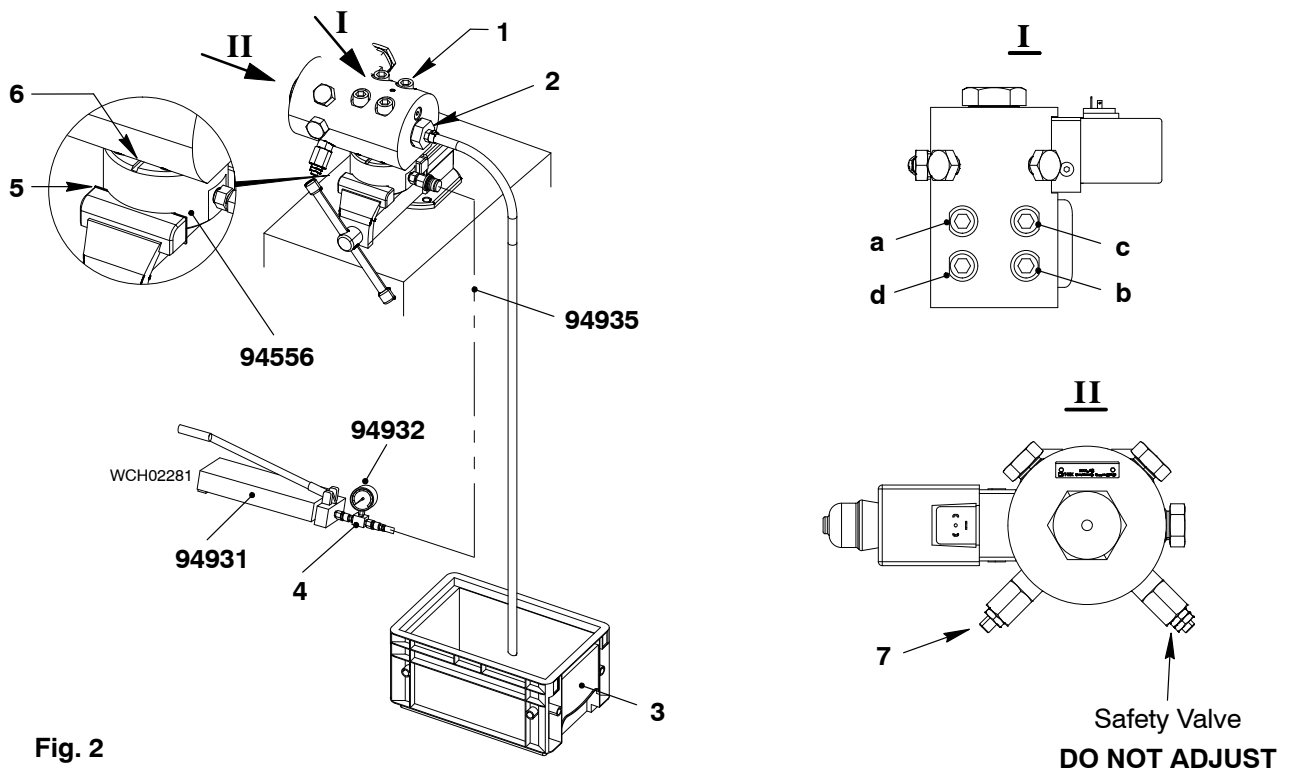

Fig. 2
- 1) Put protection (6, Fig. 2) around the PCV test block (94556).
- 5) Put oil on the threads of the four screws (1).
- 6) Put the four screws (1) in position in the PCV.
- 8) Attach the flexible tube (a part of the test block 94556) to the PCV outlet (2). Put the other end of the flexible tube into an applicable container (3).
- 1) Operate the HP oil pump (4, Fig. 2).
- 2) Tighten the SAV (7) to get a value of 100 bar.